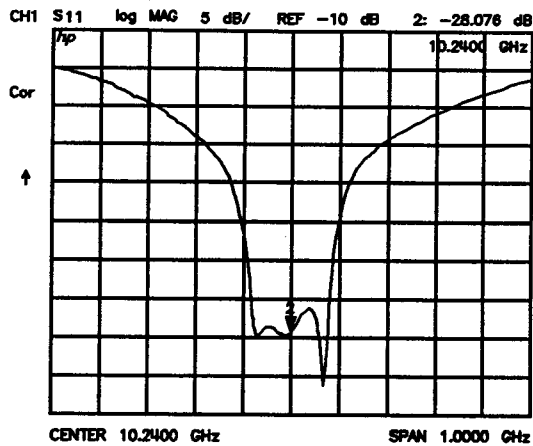

Figure 5-10. Log Magnitude Format
**LOG MAG** (LOGM) displays the log magnitude format. This is the standard Cartesian format used to display magnitude—only measurements of insertion loss, return loss, or absolute power in dBm versus frequency. Figure 5-10 illustrates the bandpass filter reflection data in a log magnitude format.